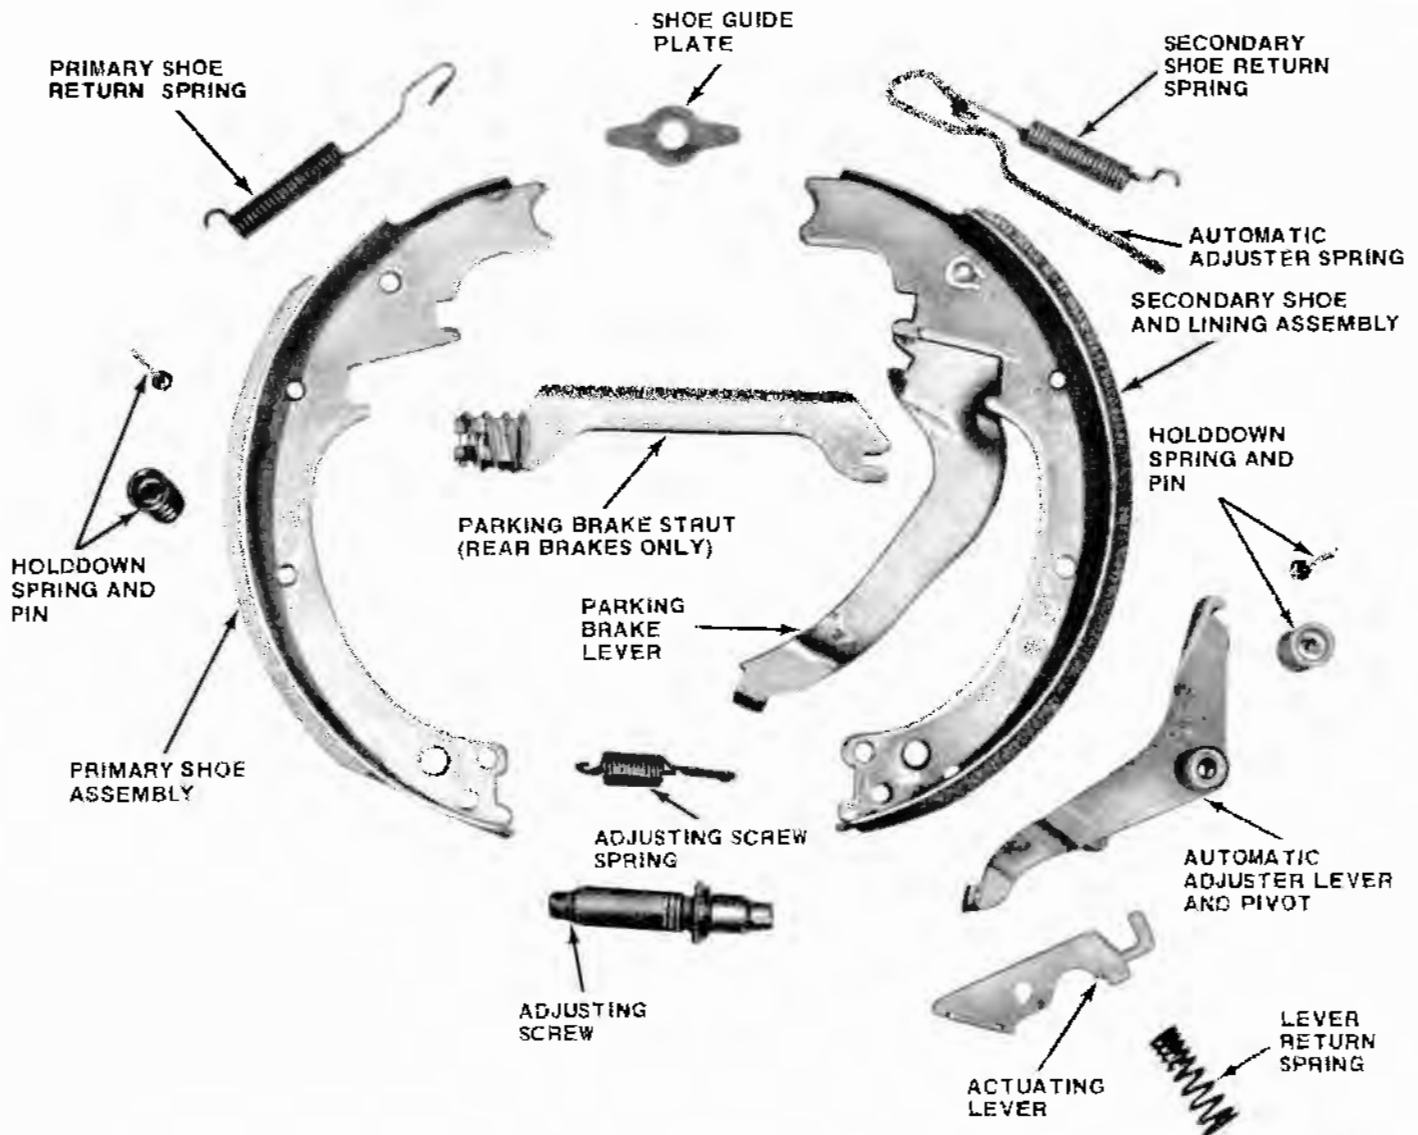

Fig. 9-28 Disassembled Drum Brake Assembly - Cherokee, Wagoneer, Truck (Rear Brake Shown)
(4) Remove holddown springs and remove brake shoe assemblies. On rear brakes, disengage parking brake cable from parking brake lever. (Parking brake strut is removed with brake shoe assemblies) fig. 9-28.
(1) Apply thin film of molydisulphide grease, or NLGI No. 2 chassis lubricant or lithium base lubricant to following parts (see fig. 9-28 and 9-29).